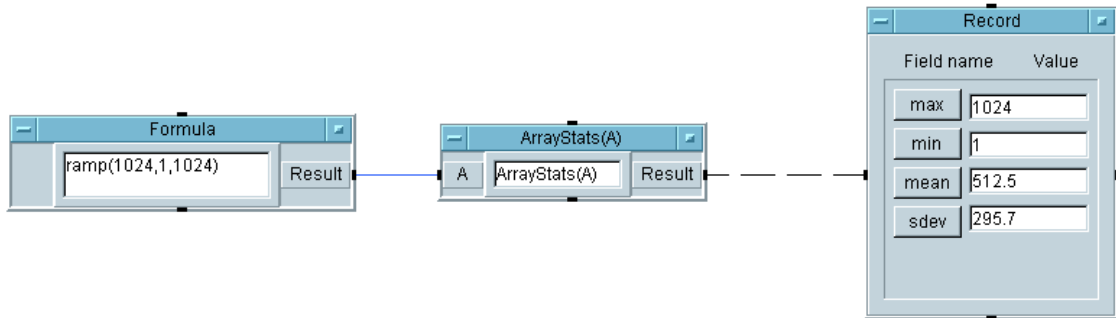

Figure 188 Generating a Call Object ArrayStats(A) from a UserFunction
- 5 Run the program. It should look like Figure 188.